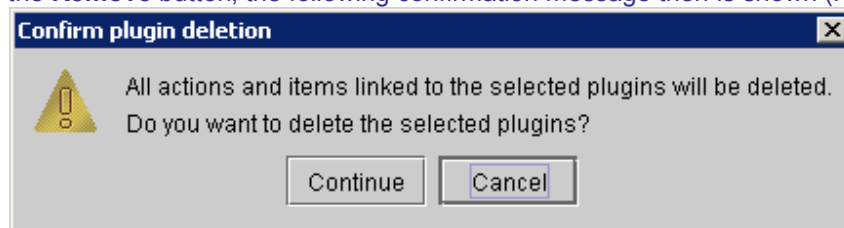

Figure 169 : JAR files deletion confirmation message
- Click on the **Remove** button; the following confirmation message then is shown (Figure 169):